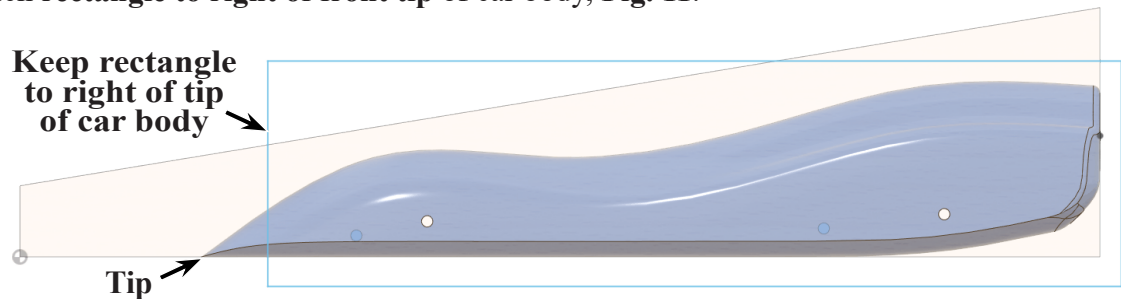

Fig. 11
Step 5. Sketch **rectangle to right of front tip** of car body, **Fig. 11**.